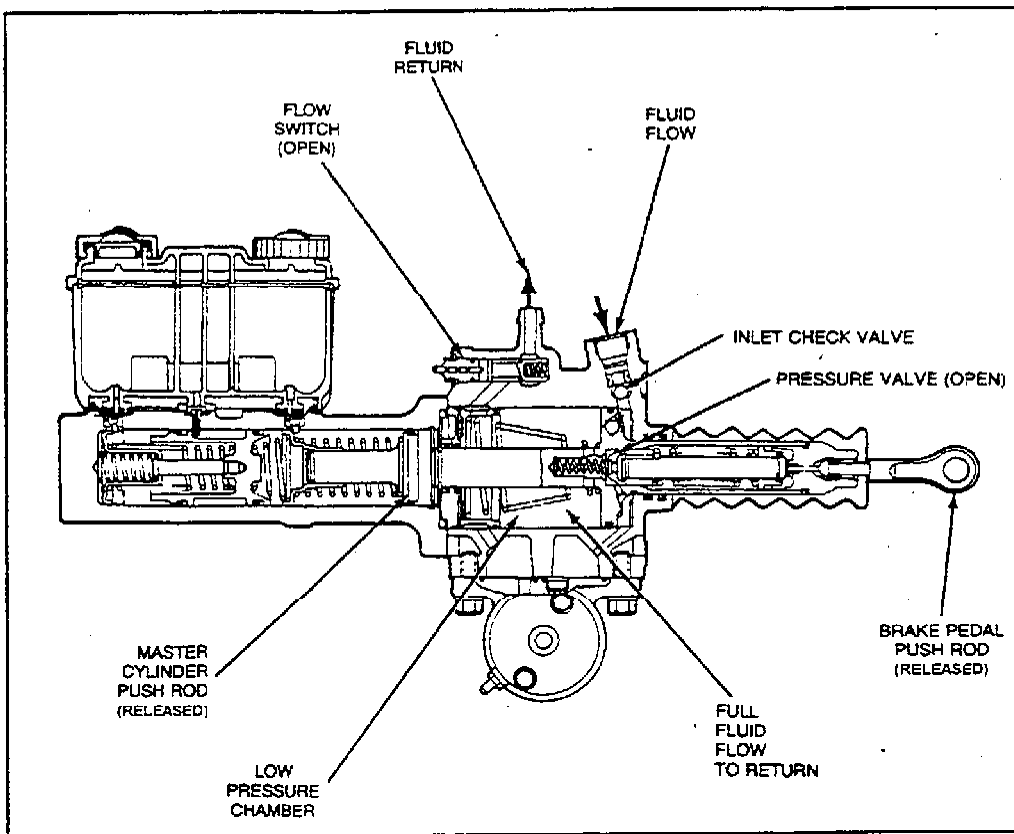

Fig. 7-6. Hydro-Max - Brakes Released
b. Operation - Brakes Released. Figure 7-6 illustrates the Hydro-Max brake booster (with the master cylinder installed) with the brakes released. It operates as follows:
(1) With the engine running and the brakes released, oil pressure from the power steering or brake pump holds the Hydro-Max booster inlet check valve open. Before the brake pedal is applied, fluid passes freely through the pressure valve and into the low pressure chamber. From the low pressure chamber, fluid returns to the pump reservoir.